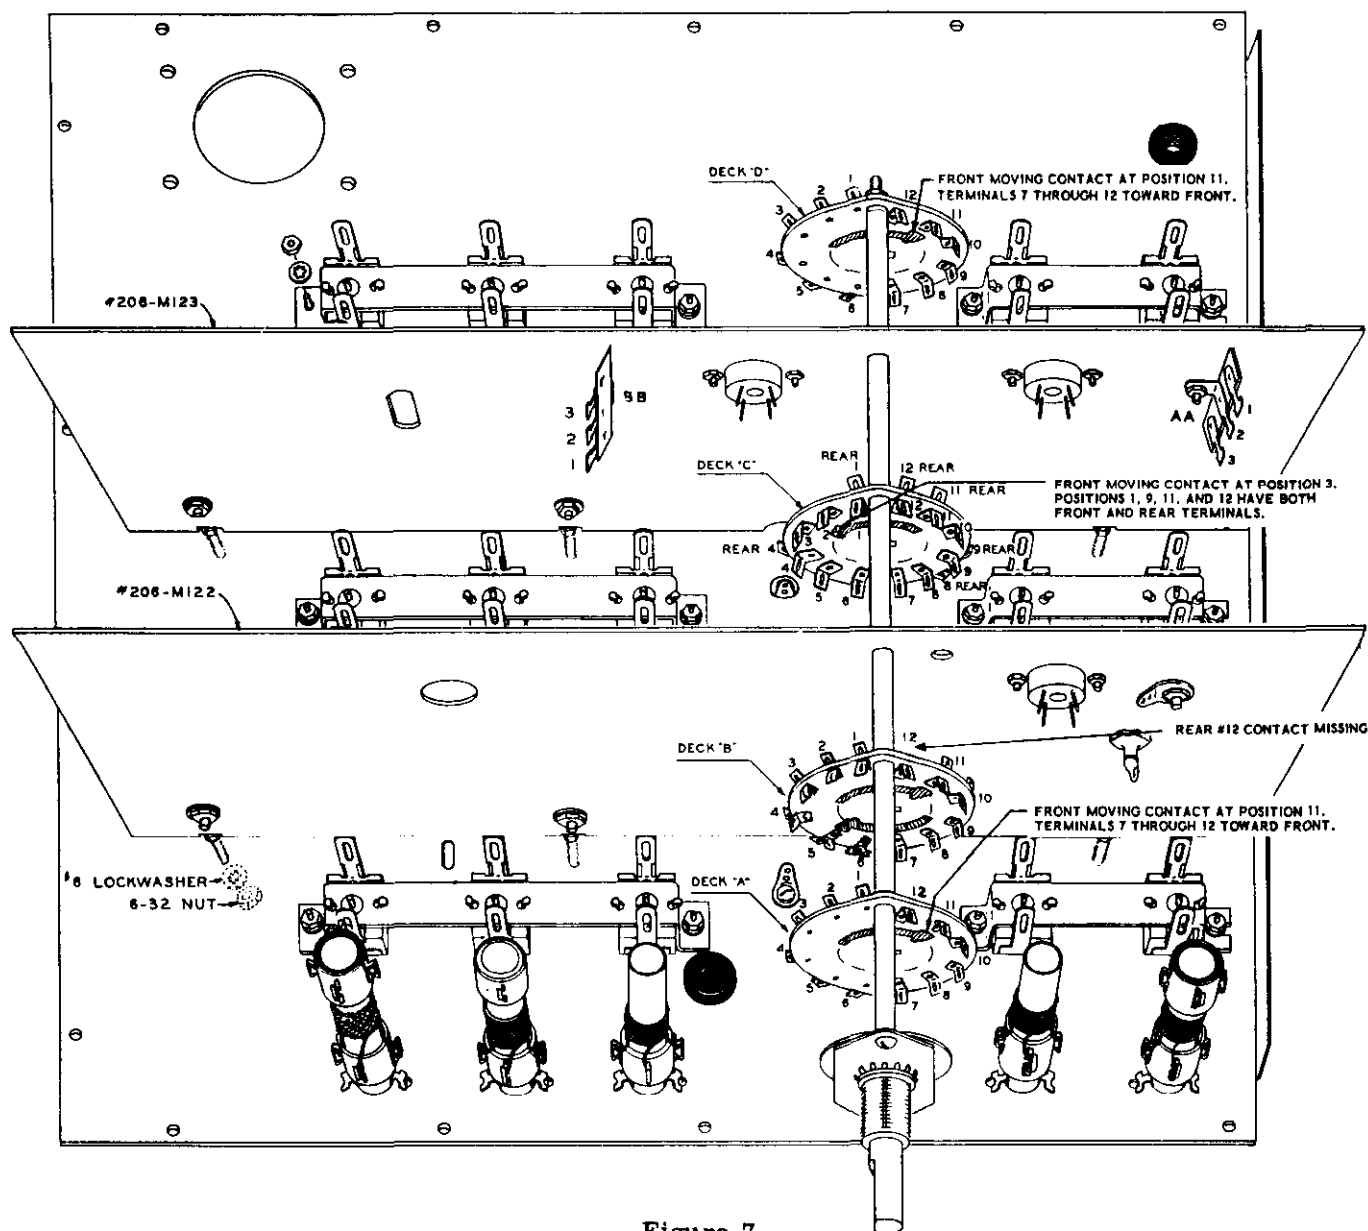

Figure 7
Refer to Figure 6 for assembly of the shields to the band switch (#63-238) and Figure 7 for proper orientation of the switch wafers. The switch as supplied should be in its extreme counterclockwise position, as viewed from the knob end. It must be assembled to the shield plates while in this position, if the indicated positions of moving contacts shown in Figure 7 are to apply.
2. Make absolutely certain all switch wafers are oriented as shown in Figure 7. **CHECK THE POSITIONS OF THE TERMINALS AND FRONT MOVING CONTACT ON EACH SECTION.**
- ( ) Place the oscillator-mixer shield (#206-M122) on the band switch (note position of contacts with respect to the switch rotor and shield plate). Orient as shown in Figure 7.
Refer to Figure 7 for the following steps: